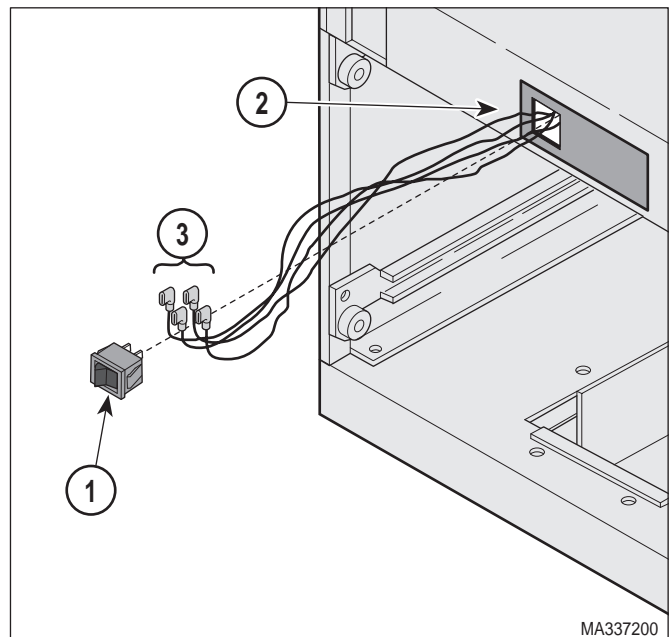

Figure 4-20. Heater On / Off Switch Removal / Installation
- (1) Unplug table power cord from wall outlet.
- (2) Using a standard screwdriver, carefully pry heater switch (1, Figure 4-20) out of upper wrap weldment (2), making sure not to scratch table.
- (3) Tag and disconnect four wires (3) from heater switch (1).